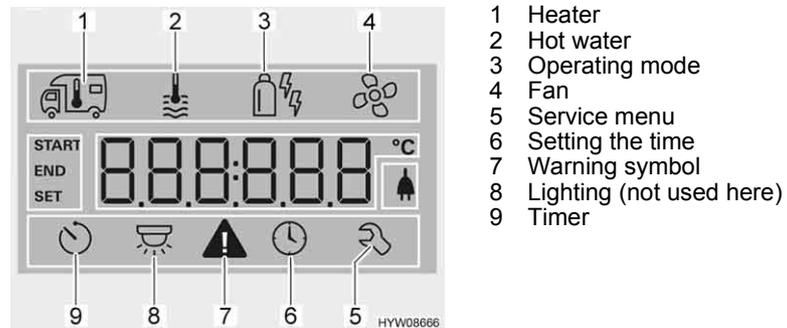

Fig. 187 Display
- Turn rotary push button (Fig. 186,6) until the heater menu symbol (Fig. 187,1) flashes.
- Turn rotary push button (Fig. 186,6) until the hot water menu symbol (Fig. 187,2) flashes.
- Turn rotary push button (Fig. 186,6) until the menu symbol operating mode (Fig. 187,3) flashes.
- Turn rotary push button (Fig. 186,6) until the fan menu symbol (Fig. 187,4) flashes.
- Turn rotary push button (Fig. 186,6) until the timer menu symbol (Fig. 187,9) flashes.
- Press rotary push button. The timer is activated. The timer symbol (Fig. 187,9) flashes when the timer is programmed and active.
The warning symbol (Fig. 187,7) flashes in the event of a warning. The heater continues to operate. In the event of only a temporary fault, the warning symbol goes out automatically.